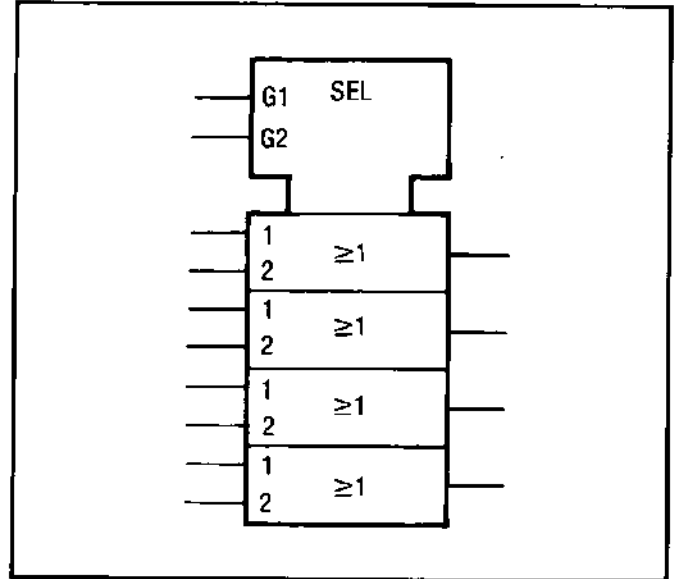

Figure 8-15. AND-OR Selector
**AND-OR Selector.** The selector control block simplifies the AND portion of a quad AND-OR select gate (see Figure 8-15). When G1 is high, the data presented at the "1" inputs is gated through. When G2 is high, the data presented at the "2" inputs is gated through.